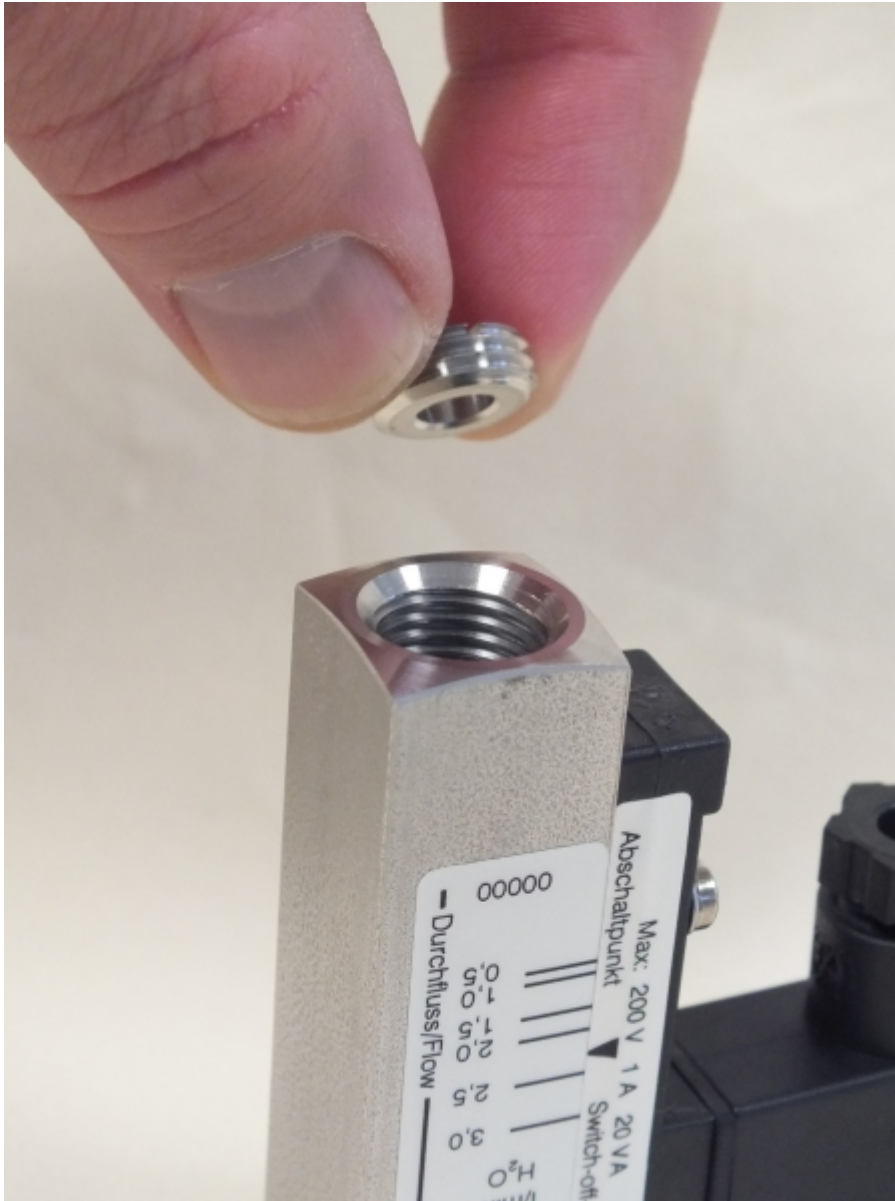

Fig. 42: Remove threaded ring (inlet)
8. ➤ Remove the threaded ring (inlet) from the device body (Fig. 42)